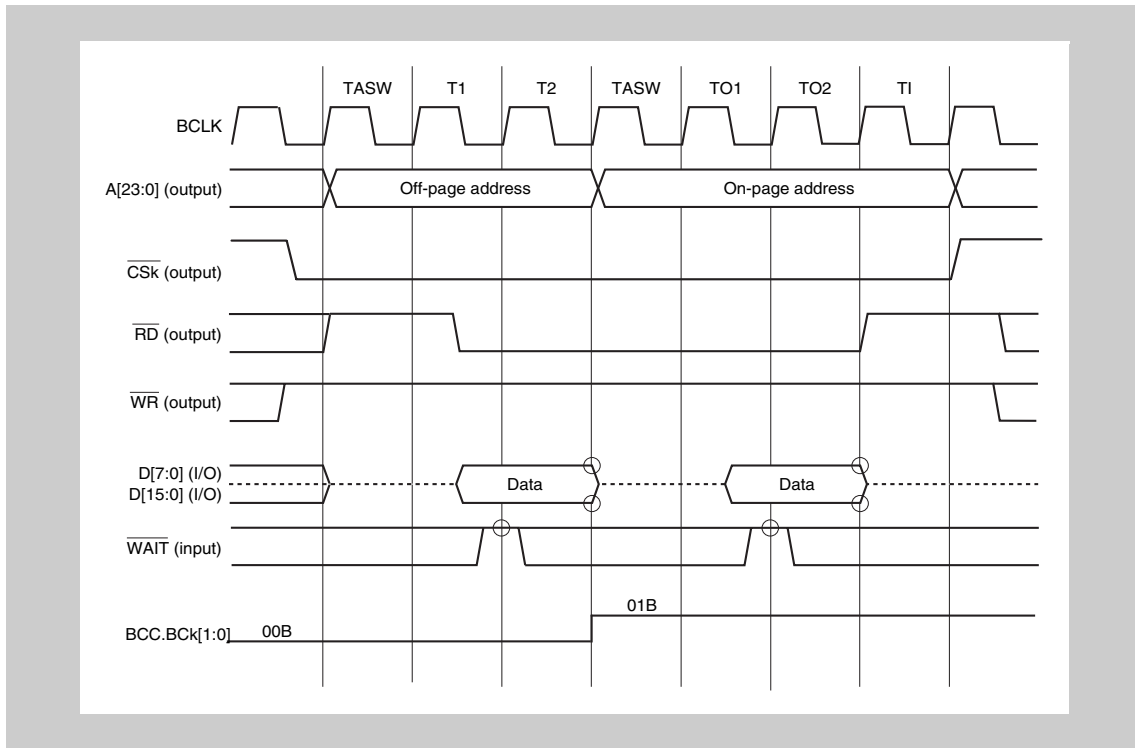

Figure 7-18 Reading page ROM with address setup wait states and idle state insertion
- BCC.BCk[1:0] : see *Figure 7-18*